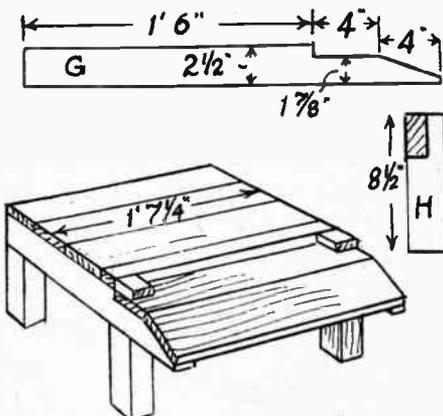

Fig. 3—The support stand
Fig. 3 shows the stand which supports the hive. The side pieces of these (G) are cut from thick wood, stuff of $1\frac{1}{2}$ ins. by $2\frac{1}{2}$ ins. size would do nicely. It will be seen that 8 ins. of this are reduced to $1\frac{3}{8}$ ins., so that if wood of $\frac{3}{8}$ in. thickness is nailed across it, it will come level with the rest. If wood of thicker stuff be used, the reduction must be amended to suit. For instance, if $\frac{1}{2}$ in. board is employed,